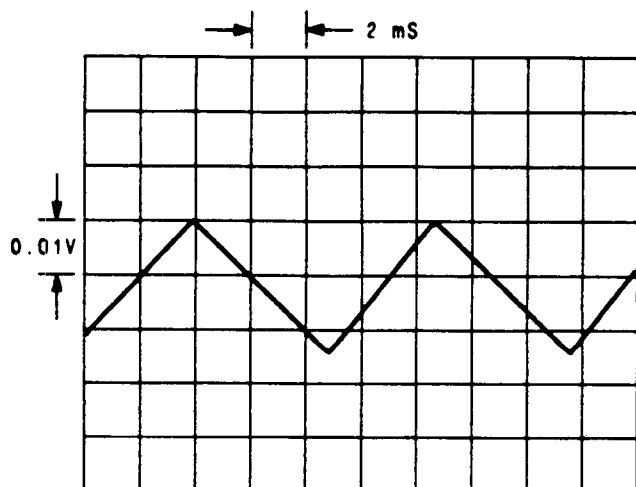

**Figure 3.** Oscilloscope display of TP4 (dc coupled), Signal Generator's frequency 950 MHz, modulation EXT FM 99 kHz (100 Hz square wave).
7. Verify that the oscilloscope displays the same waveform as shown in Figure 3.